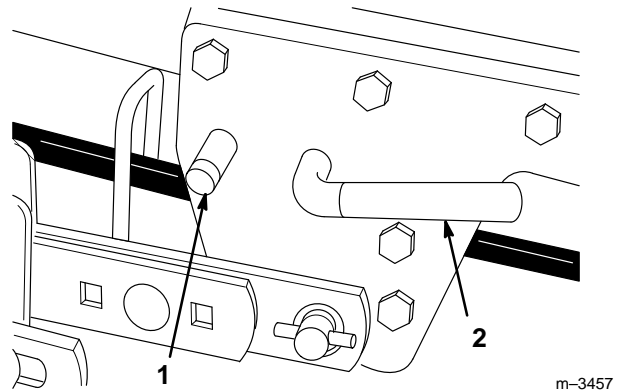

Figure 21
9. Press the button of the mid Attach-A-Matic™ and twist the lever counterclockwise to release the mower (Fig. 21).